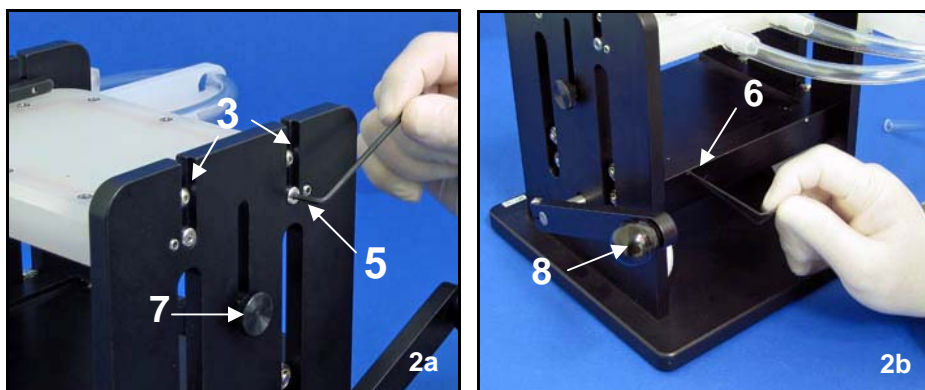
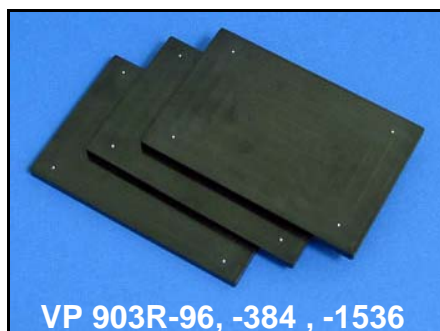
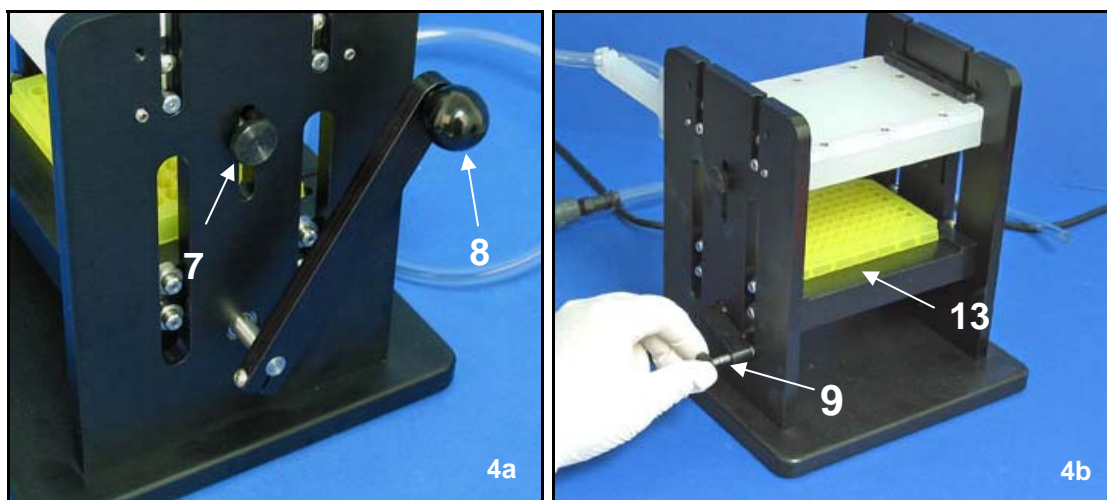

Figure 2: Securing Manifold in Jig (a). Adjusting X (a) and Y (b) Positions.
Figure 3: Registration Plates
Figure 4: (A) Adjusting Z Bar Stops. (B) Adjusting Nylon Pressure Screw for Z Arm control.
3. For more precise positioning use one of the Registration Plates VP 903R-96, VP 903R-384 or VP 903R-1536 (Figure 3). Place the Registration Plate into the Microplate Platform (13) where the microplate would go and push against the back wall. Pull the Z Arm Lever (8) down until the Manifold tubes are just over the Registration Plate. Tighten the Z Arm Nylon Press Screw (9) to hold the Microplate Platform (13) in position (Figure 4). Line up the white 1mm corner spots of the Registration Plate with the corner tubes on the Manifold. This is done by using the provided 0.5 Allen wrench to adjust the X and Y Position Screws (5 and 6) as shown in Figure 2.